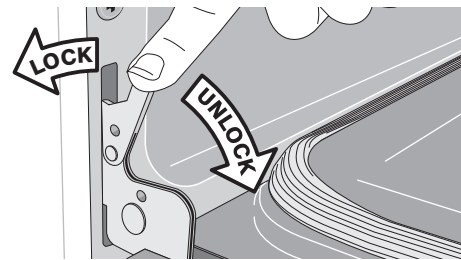
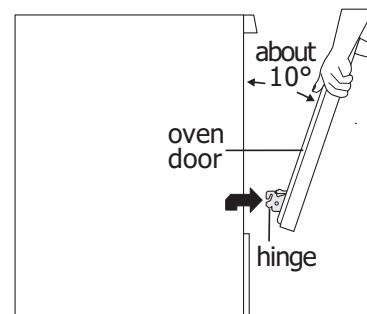

Figure 8: Door hinge locked
Figure 9: Unlocking door hinge
2. Pull up the lock located on each hinge support toward front of the oven until the lock stops. You may have to apply a little upward pressure on the lock to pull it up (Figure 8 and Figure 9).
4. Push the door hinge locks up toward and into the oven frame on both left and right oven door hinges to the locked position (Figure 8)